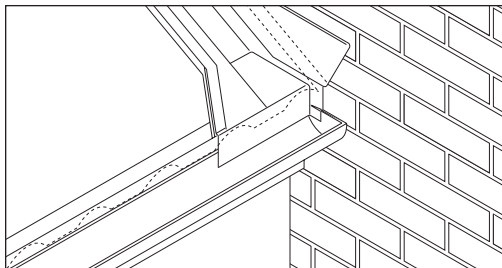

Fig 69 – Secret gutter
- Fix a splayed timber fillet at discharge point to raise lead lining to the right height. Avoid backward falls (Fig 69).